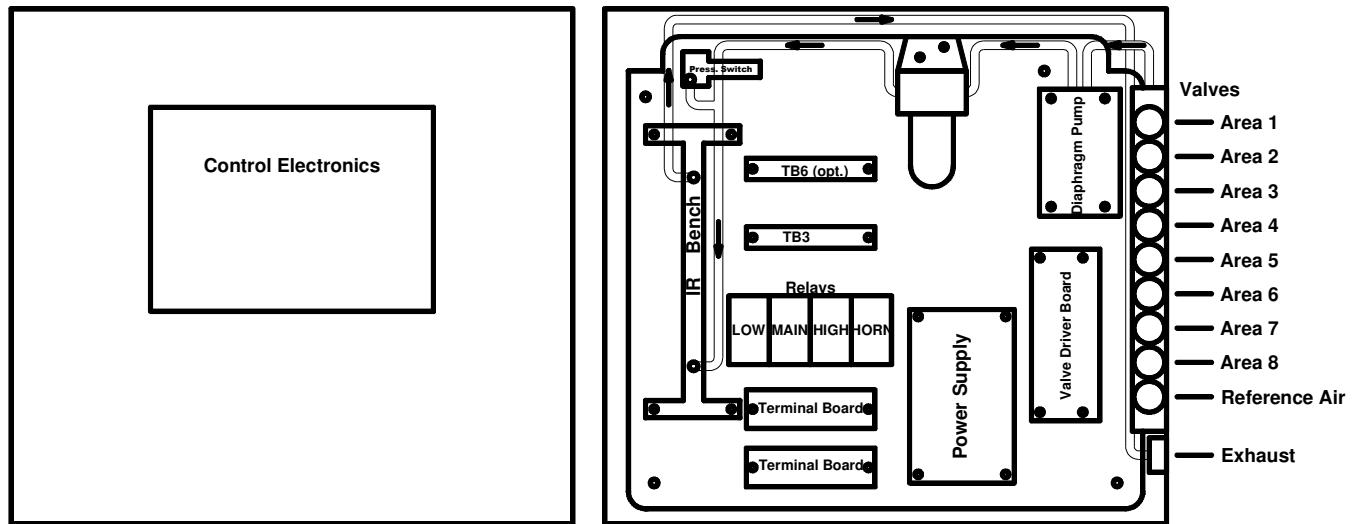

Figure 6. Parts Diagram
**Parts List:** Refer to figure 6 for approximate location of the following parts: